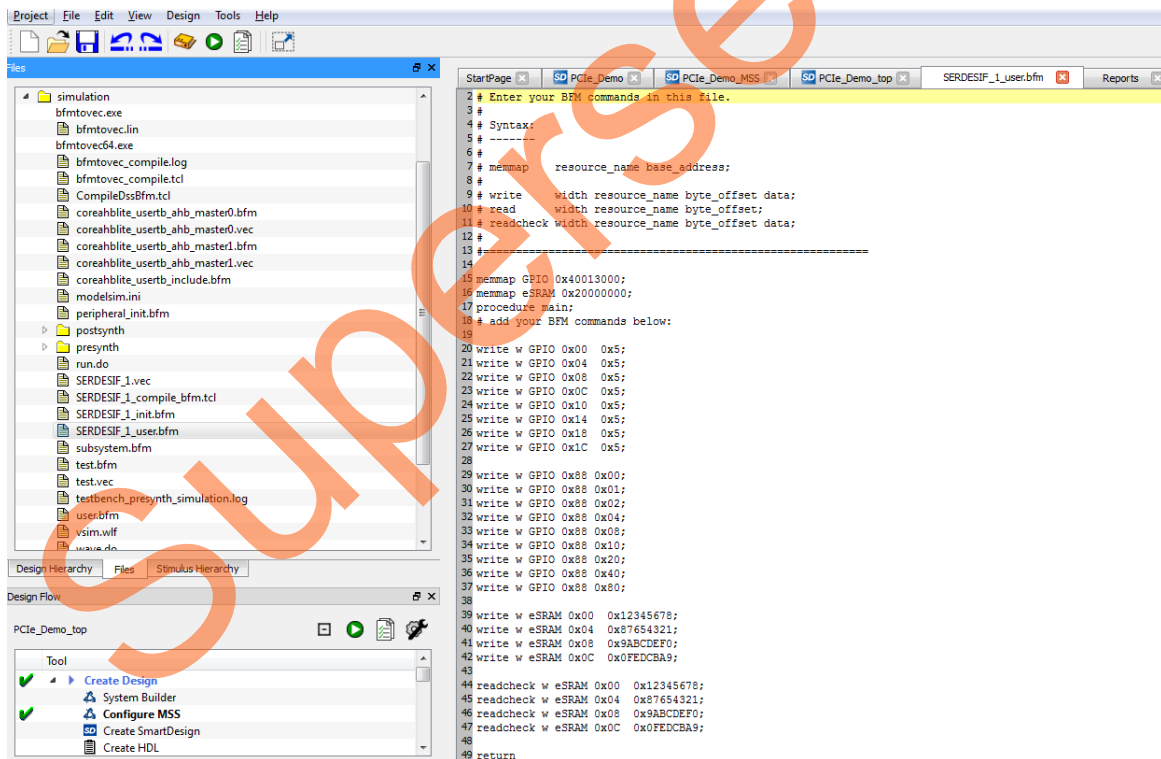

Figure 44 • Modified SERDES User BFM
3. The modified BFM file appears similar to the file shown in Figure 44. BFM commands added in the `SERDESIF_1_user.bfm` do the following: